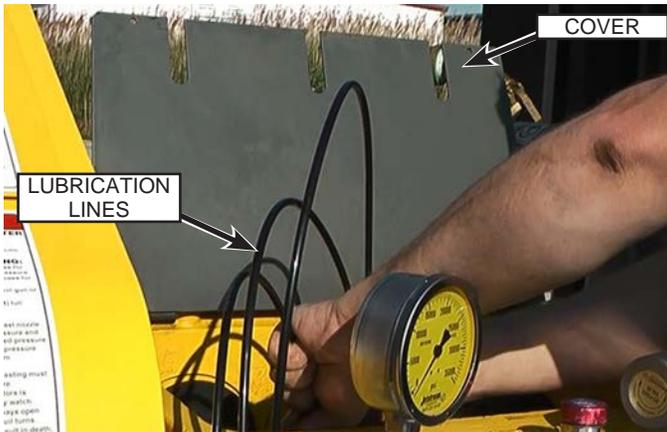

Fig. 80: Disconnecting Lubrication Lines
4. Open the rod box cover (Fig. 80) and disconnect the lubrication lines from the stuffing box fittings.